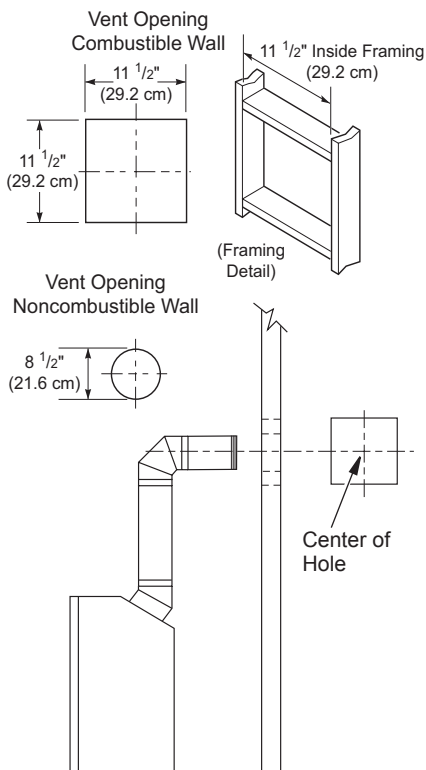
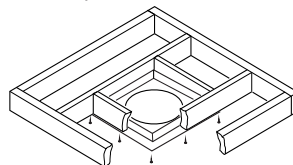

Figure 9 - Vent Opening Requirements
Figure 20 - Installing Firestop
5. Carefully determine location where vent pipe assembly will penetrate outside wall. Center of hole should line up with center line of horizontal vent pipe. Mark wall for a 11 1/2" x 11 1/2" square hole. Cut and frame square hole in exterior wall where vent will be terminated. If wall being penetrated is constructed of non-combustible material, such as masonry block or concrete, a 8 1/2" hole with zero clearance is acceptable (see Figure 9).
dimensions, as shown in Figure 9 on page 10 using framing lumber the same size as ceiling joists. If area above ceiling is an insulated ceiling or an attic, nail firestop from top side. This prevents loose insulation from falling into required clearance space. If area above ceiling is a living space, install firestop below framed hole. Firestop should be installed with no less than three nails per side (see Figure 20).
3. Cut a hole in roof using locating hole as a center point. (Cover any exposed open vent pipes before cutting hole in roof.) The 11 1/2" x 11 1/2" hole must be measured on the horizontal; actual length may be larger depending on pitch of roof. There must be a 1" clearance from vent pipe to combustible materials. Frame opening as shown in Figure 9, page 10.